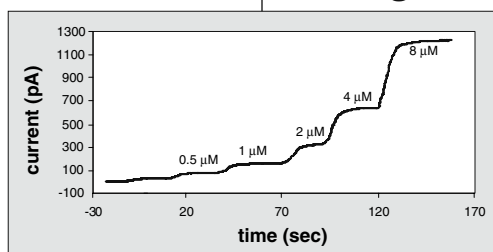

Fig. 13—Calibration curve
2. Consecutively add known volumes of the H_2O_2 standard solution to the PBS buffer solution. For example, add 0, 5, 10, 20, 40, 80 μL H_2O_2 standard solution (1.0 mM) into the 10 mL PBS buffer solution. The additions can be added once every 20-30 seconds. The resulting output should look similar to the example in **Fig 13**.